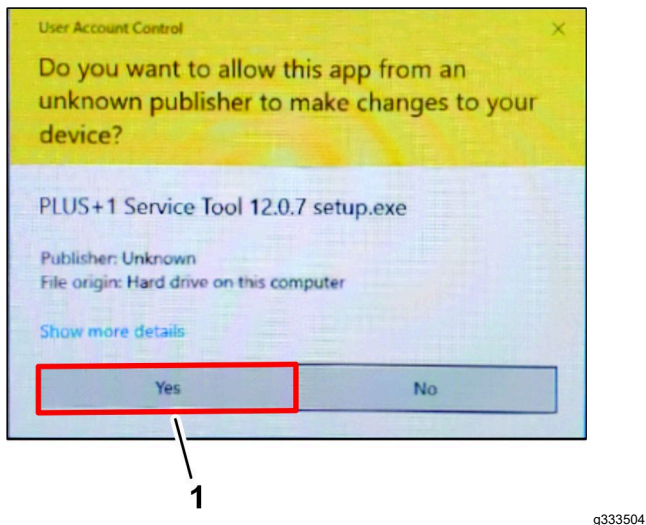

Figure 7
2. If the User Account Control dialog box displays, click the YES button (Figure 7).